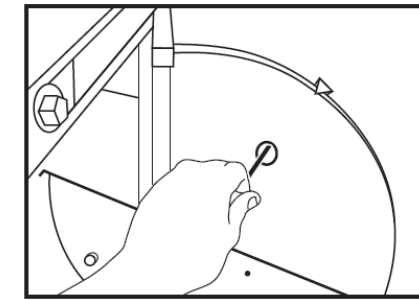

Fig 2
4. View protractor pointer (3), if it points to zero or desired setting, calibration is finished. If not, continue to step 5.
5. Adjust protractor pointer (3) by loosening Allen screw on the bottom of the protractor pointer (3) on the back side of the bender shoe, using a 3/16" Allen wrench (Fig. 2).